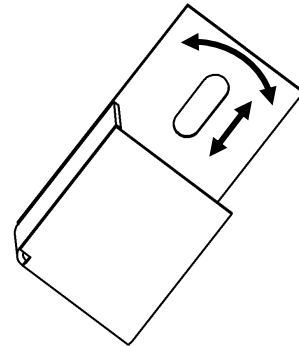

Figure 3-28
2. Loosen the bolt just until you can move the bracket. **DO NOT REMOVE THE BOLT.** The sensor bracket rotates and moves up and down in the slot on the bracket, as shown in Figure 3-28.